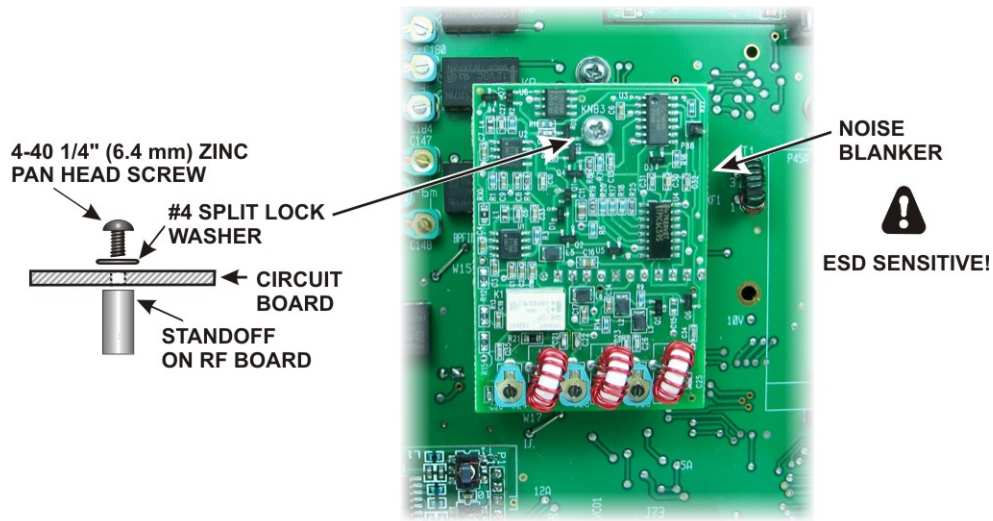

Figure 86. Installing the Noise Blanker Board.
- Plug the noise blanker board into J77 and attach it to the standoff using the hardware shown in Figure 86.